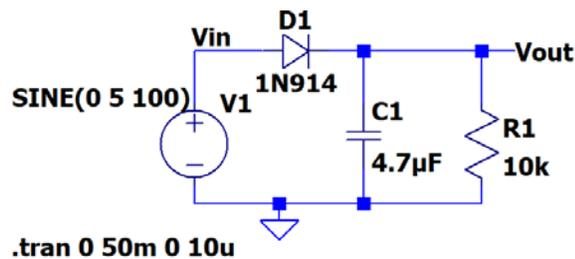

Figure B-6.
- **B.3** Add a capacitor across the resistor as shown in Figure B-6 below: